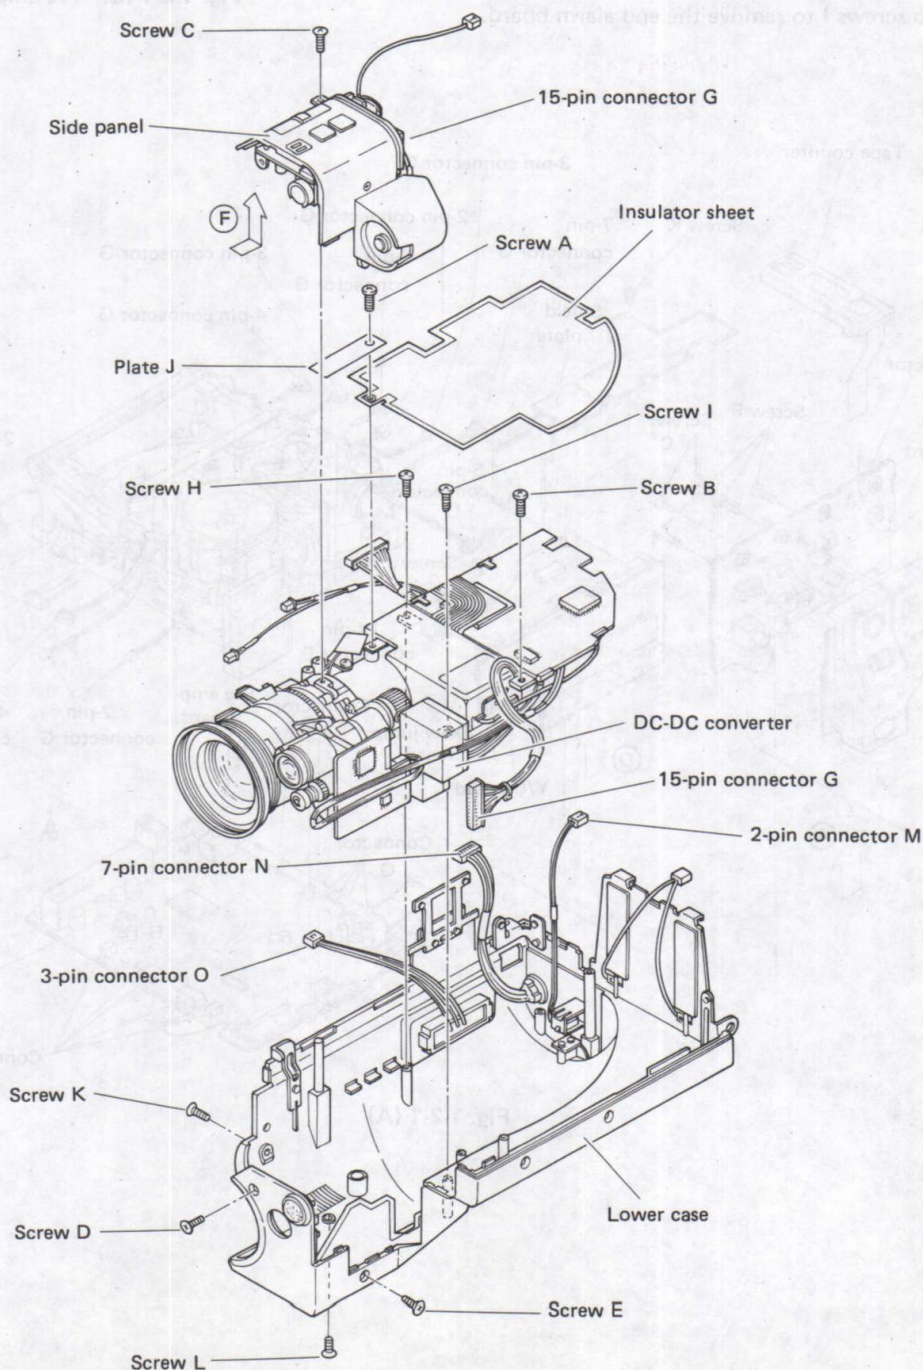

Fig. 1-1-4
1. Refer to Fig. 1-1-4. Take out screws A and B, and remove the insulator sheet.
2. Take out screws C, D and E. Disengage the side panel from the lower case by shifting and raising it as shown by the arrow (F). Disconnect the connector G.